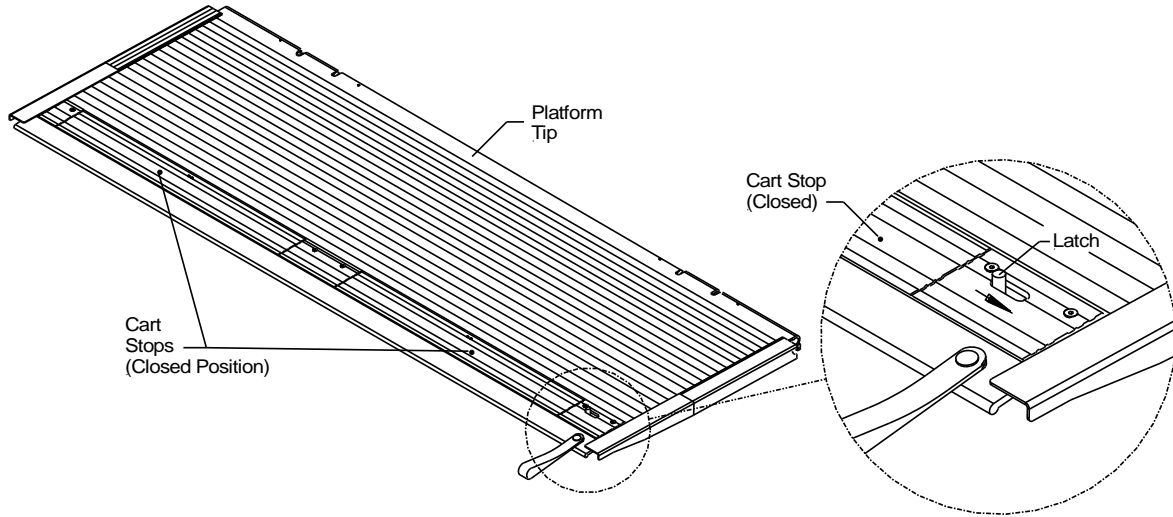
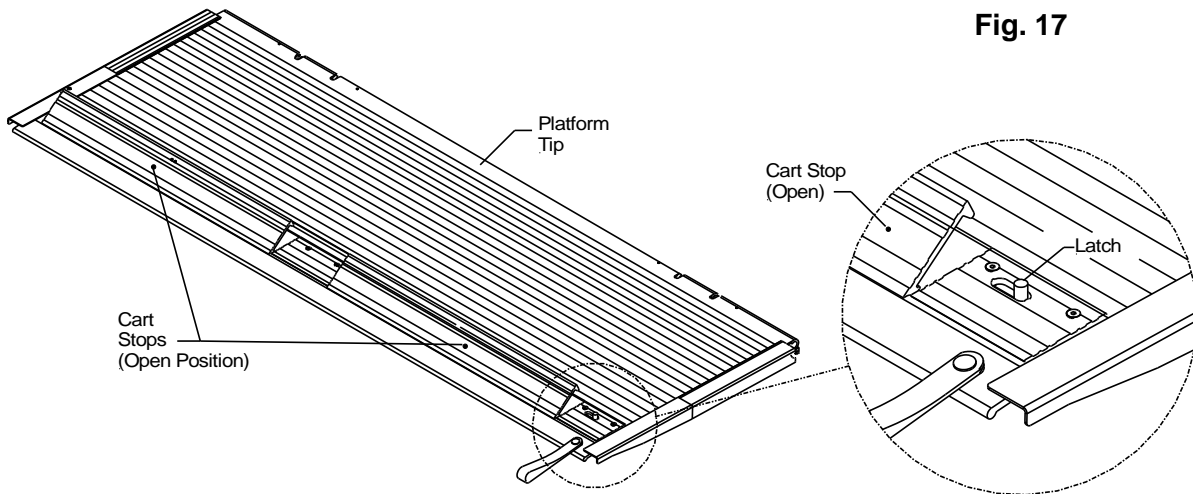

Fig. 17
Fig. 18
1. Push the cart stop latch out toward the curb side, **Fig. 17**. The cart stop will spring open automatically once the latch has been moved from its original position, **Fig. 18**.